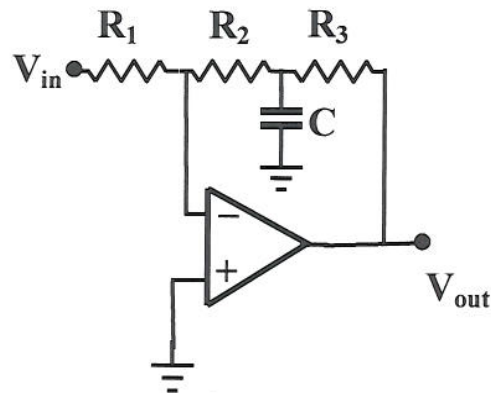
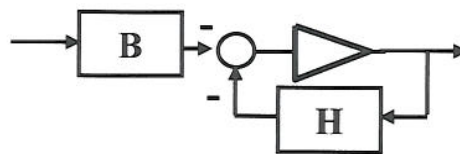

Figure 2.1
Figure 2.2
2. A student proposed to use the circuit in Figure 2.1 as a high pass filter. The student argued that the capacitor in the feedback path will supply an increasing with frequency current to R_3 . As a result, the overall gain will increase with frequency. In this problem you will check the student's claims by analysing the circuit. As this circuit is rather complicated, we take a step-by-step approach.
- Model the circuit of Figure 2.1 as a block diagram similar to that of Figure 2.2. Calculate the gains of the blocks B and H. [10]